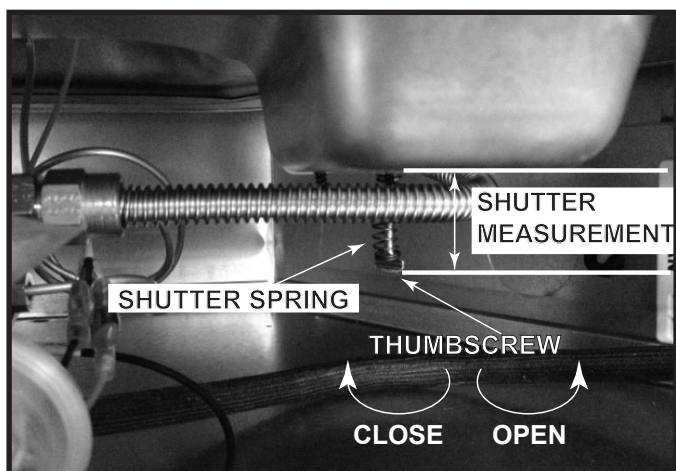

Figure 10.1 Adjusting Air Shutter
- Adjust air shutter for longer vertical runs. See Figure 10.1.
- Turn the thumbscrew to open or close the air shutter. It may be necessary to use a pliers or crescent wrench to adjust the shutter. See chart below for correct shutter settings. The shutter measurement is taken from the bottom of the tub to the bottom of the thumbscrew. See Figure 10.1.